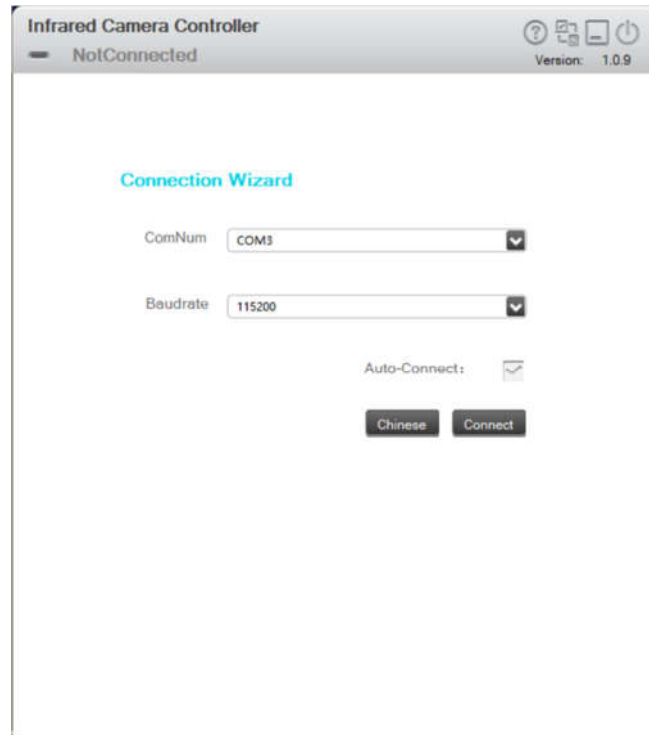

Figure 4-11 Connection wizard interface
2. When the software is opened for the first time, the connection wizard interface is an English interface by default, the upper left corner shows that the current connection status is "NotConnected", and the upper right corner shows the software version number, as shown in Figure 4-11.